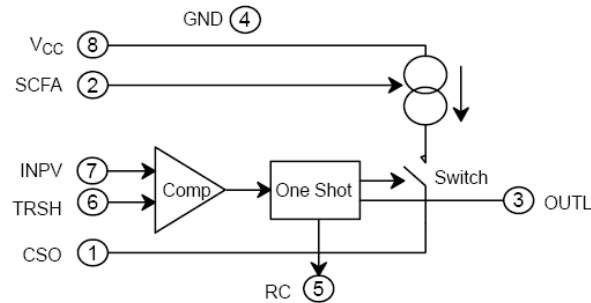
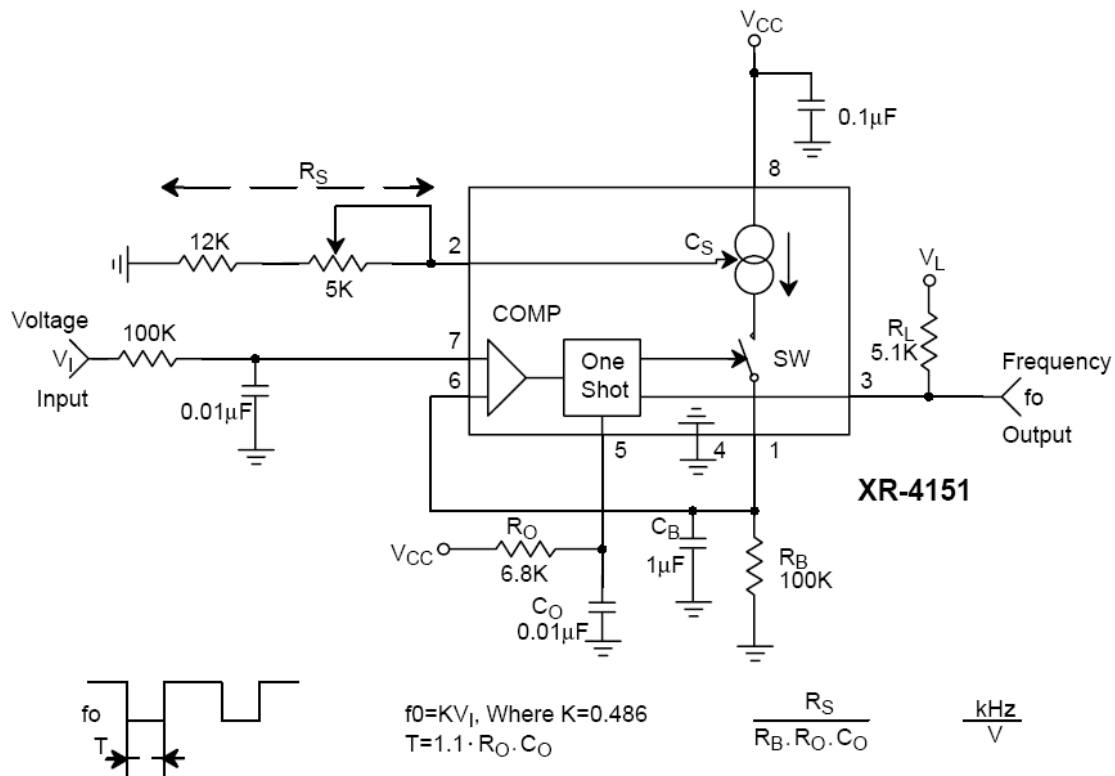

Figure 1. Block Diagram
Figure 2. Voltage-to-Frequency Converter
The XR-4151 is a device designed to provide a simple, low-cost method for converting a DC voltage into a proportional pulse repetition frequency. It is also capable of converting an input frequency into a proportional output voltage. The XR-4151 is useful in a wide range of applications including A/D and D/A conversion and data transmission. Block diagram is shown in Figure 1.
Single Supply Voltage-to-Frequency Converter (VFC) as shown in Figure 2 is the simplest type of VFC that can be made with the XR-4151. The input voltage range is from 0 to +10V, and the output frequency is from 0 to 10 kHz. The full scale frequency can be tuned by adjusting R_S , the output current set resistor. Response time for this circuit is limited by the passive integration network $R_B C_B$. For the component values shown in Figure 1, response time for a step change input from 0 to +10V will be 135 msec.
- a. Construct a Voltage to Frequency Converter as shown in Figure 2. A few modifications to the circuit will be required to accommodate parts that are available in the lab. The changes are as follows:
- c. Calculate Output Frequencies for the input voltages listed in TABLE 1 using the following equation (also found on the datasheets and Figure 2 of this lab)
- a. Connect Frequency output of circuit shown in figure 1 (experiment #1) to the Frequency input of the circuit shown in figure 2 (experiment #2).